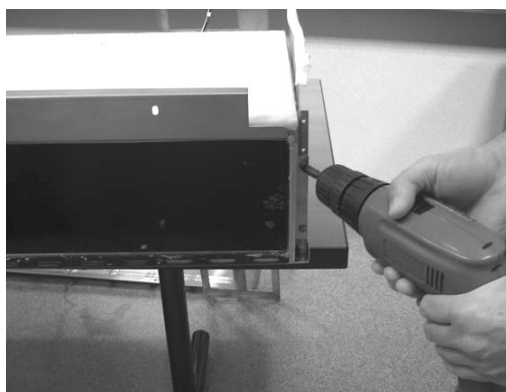

Figure 6
9. Remove the screws securing the liner(s) to the liner supports. (The lower screws too, if the lower liner assembly is to be replaced.) Figure 6.